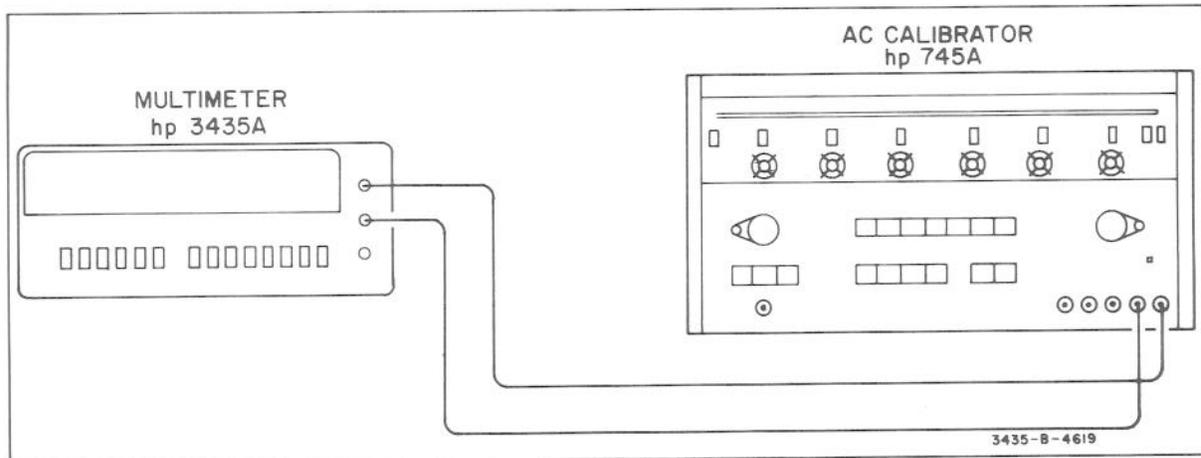

Figure 5-9. AC Gain Adjustment.
c. Connect the 745A to the Multimeter as shown in Figure 5-9.